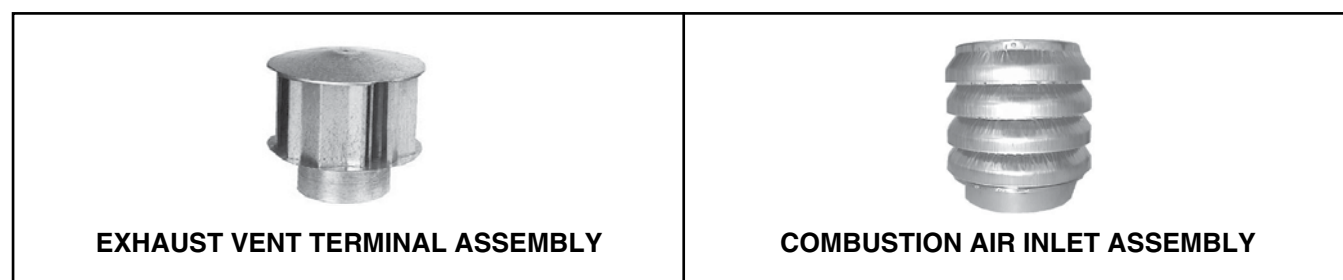

Figure 6. Option CC2 Components
- Factory-supplied components for installation of the vertical vent kit are listed in Table 6 and shown in Figure 6.